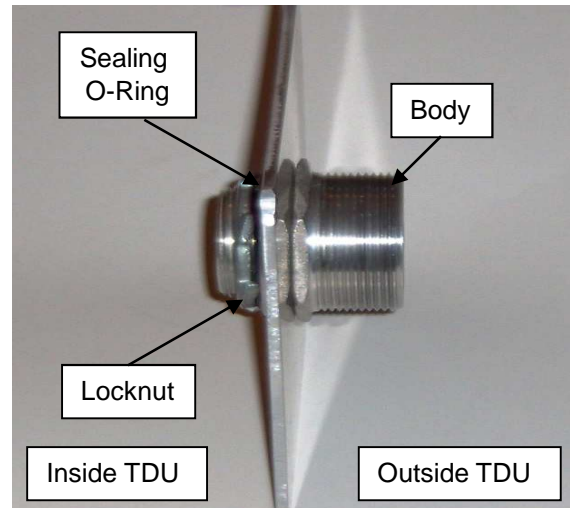

Figure 7
6.7 Use appropriate size wrenches and tighten Locknut to firmly secure Kellems Grip body to TDU. See Fig. 7.